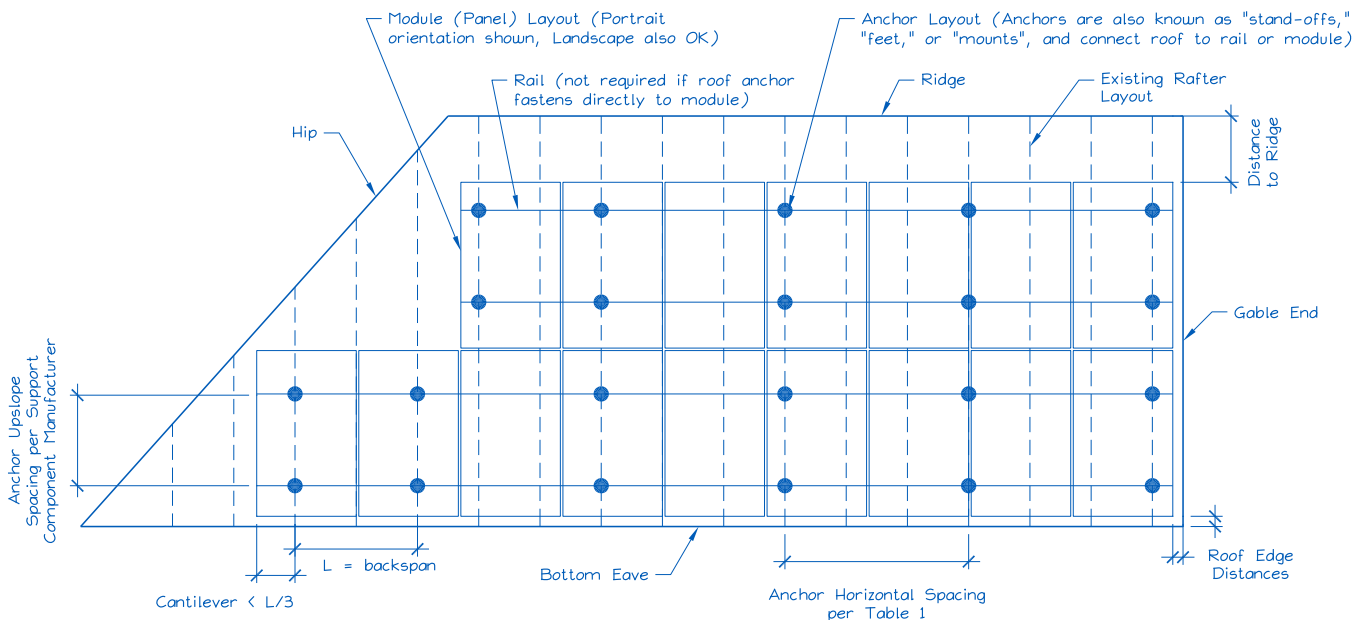

Figure 2. Sample Solar Panel Array and Anchor Layout Diagram (Roof Plan).
E. Is a roof plan of the module and anchor layout attached? (see Figure 2) Y N
- 1) Proposed anchor horizontal spacing (see Figure 2): _____' - _____"ft-in
- Anchors are also known as "stand-offs", "feet", "mounts" or "points of attachment". Horizontal anchor spacing is also known as "cross-slope" or "east-west" anchor spacing (see Figure 2).